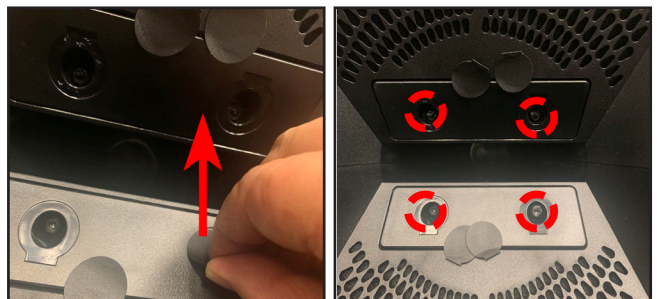

Figure 6. Waveguide Labels & Waveguide Cover Removal
2.3 Use your finger to peel off the 4 Waveguide Labels. Figure 6 (left).
2.4 Remove the 4 screws that secure the Waveguide Cover. Figure 6 (right).